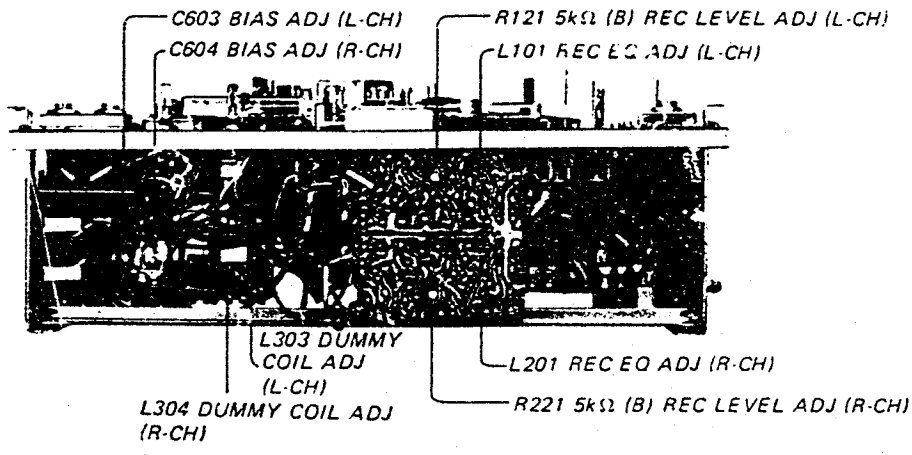
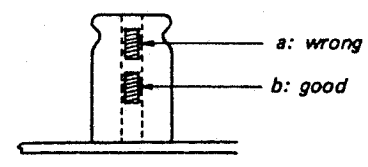

Fig. 4-3-1 Adjustment location
Fig. 4-3-4 Core setting of L101 (L201)
L301 R-CH: L302 1.8 mH e Fig. 4-3-1.	1. Set the REC VOL controls (R135 & R235) to minimum. 2. Adjust to obtain minimum reading on VTVM.
C603 R-CH: C604 30-200pF e Fig. 4-3-1.	1. Set the MONITOR switch to TAPE position. 2. Turn the trimmer capacitors counterclockwise and set them in minimum capacitance position. 3. Recording the signal, turn the trimmer capacitor (C603, L-CH) clockwise slowly until the VTVM reads the maximum value. 4. Continue to turn the capacitor until the VTVM reads a value 0.5 dB below the maximum reading. Read the VTVM reading. 5. Adjust the trimmer capacitor (C604, R-CH) in the same way. 6. Make sure that the reading of L-CH is the same as the one reading in the step 4. 7. If not, follow the steps 2-6 again.
R121 R-CH: R221 5kΩ (B) e Fig. 4-3-1.	1. Set the MONITOR switches (S105 & S205) to SOURCE position. 2. Feeding the signal, slide the REC VOL controls (R135 & R235) so that the level meters indicate 0 VU (100%). 3. Record the signal on a blank tape. 4. Set the MONITOR switches (S105 & S205) to TAPE position. 5. Adjust R121 (R221) so that VTVM indicates 0 dB (0.775V).
L101 R-CH: L201 1.8/1.45 mH e Fig. 4-3-1.	1. Set the MONITOR switches (S105 & S205) to TAPE position. 2. Record an 1 kHz signal of -90 dB (24.5μV) on a blank tape and read the VTVM reading. 3. Record a 20 kHz signal of -90 dB (24.5μV) and adjust L101 (L201) so that VTVM reading is the same as the one of 1 kHz signal. Note: Two peaks appear during turning L101 (L201). Take the peak where the core is "b" position shown in Fig. 4-3-4.
e at mode L304 R-CH: L303 See Fig. 4-3-1.	1. Set the REC VOL controls (R135 & R235) to minimum. 2. Read the VTVM readings of both channels. 3. Set the machine in L-CH RECORD mode. 4. Adjust L304 so that VTVM reading is the same as the one reading in the step 2. 5. Set the machine in R-CH RECORD mode and adjust L303 in the same way.